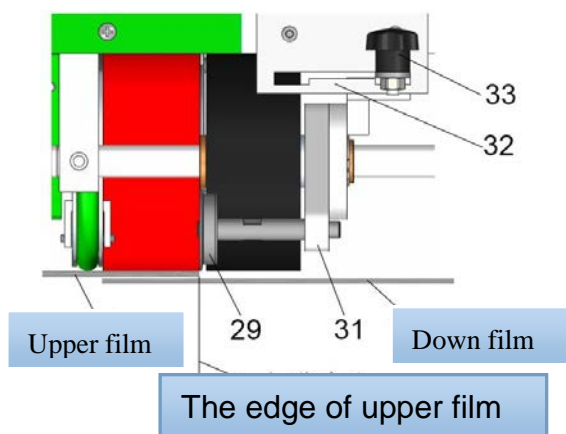

Figure 4
1. Depress handle (11) to lift machine, move it to welding position (the edge of upper film should keep in the same alignment with drive roller (2)), as shown in figure 4.
2. Lift guide bar (10) to make front wheel (left) (28) off the ground, slide handle of guide wheel (33) to right side until the right position of limit groove plate of guide wheel (32), to keep the guide wheel (29) in the same alignment with the edge of upper film.